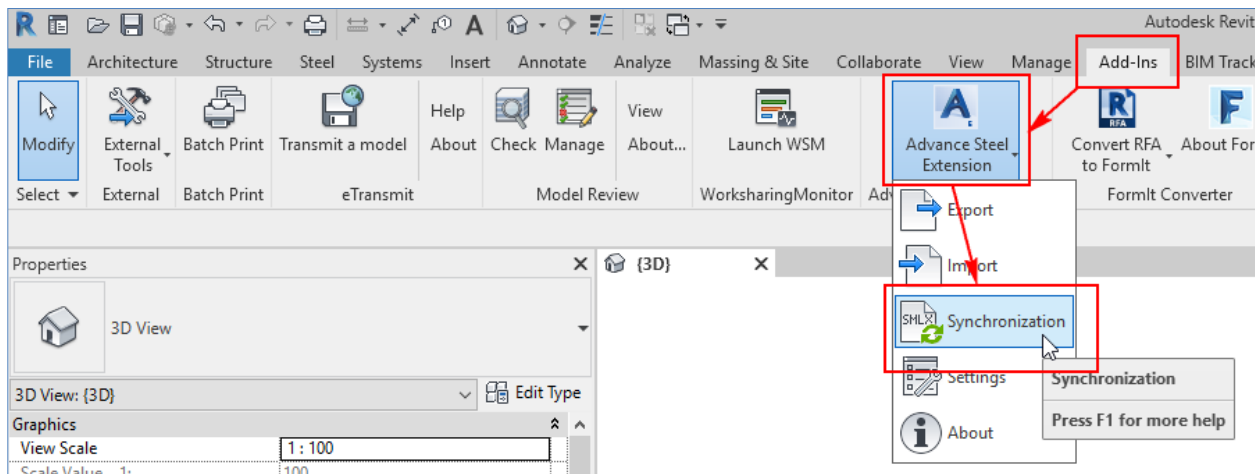

FIGURE 27: VALIDATING THE AUTODESK REVIT STRUCTURE AGAINST ADVANCE STEEL MODEL MODEL
1. In Autodesk Revit, from the **Add-Ins** ribbon tab > **Advance Steel Extension** flyout, click **Synchronization**, as shown in Figure 27.